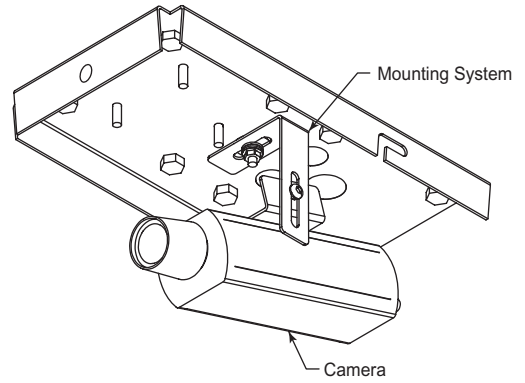

Figure 8: Camera Mounts
3. Secure the camera to the mount using the $\frac{1}{2}$ x $\frac{1}{4}$ inch button-head flange screw provided in the hardware kit. **See figures 8, 9 and 10.**